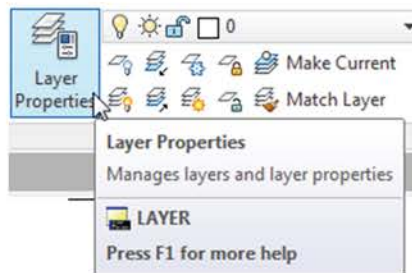

Fig. 7.3 The Layer Properties icon in the Home/Layers panel
1. The **Layer Properties Manager** can be opened with a *click* on its icon in the **Home/Layers** panel (Fig. 7.3), or by *entering layer* or *la* at the keyboard.